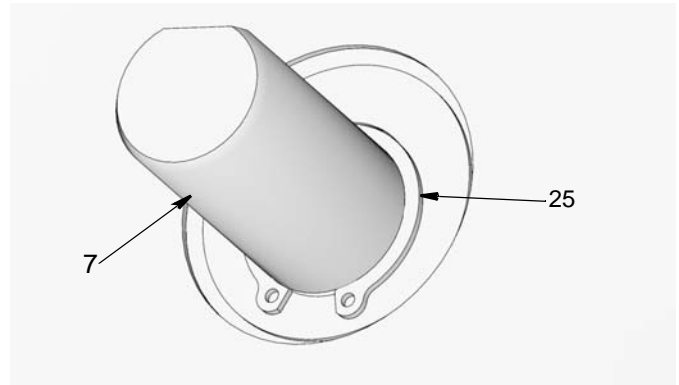

FIG. 21
2. Align set screw holes (A) on shaft (7) with proper holes on new slip ring. Tighten set screw to hand tight.
3. Re-install ground lug and wire between position 1 on slip ring and ground lug on shaft (7).
4. Re-install retaining clip (25) onto shaft (7) and slip ring (103a) in place. (FIG. 21)